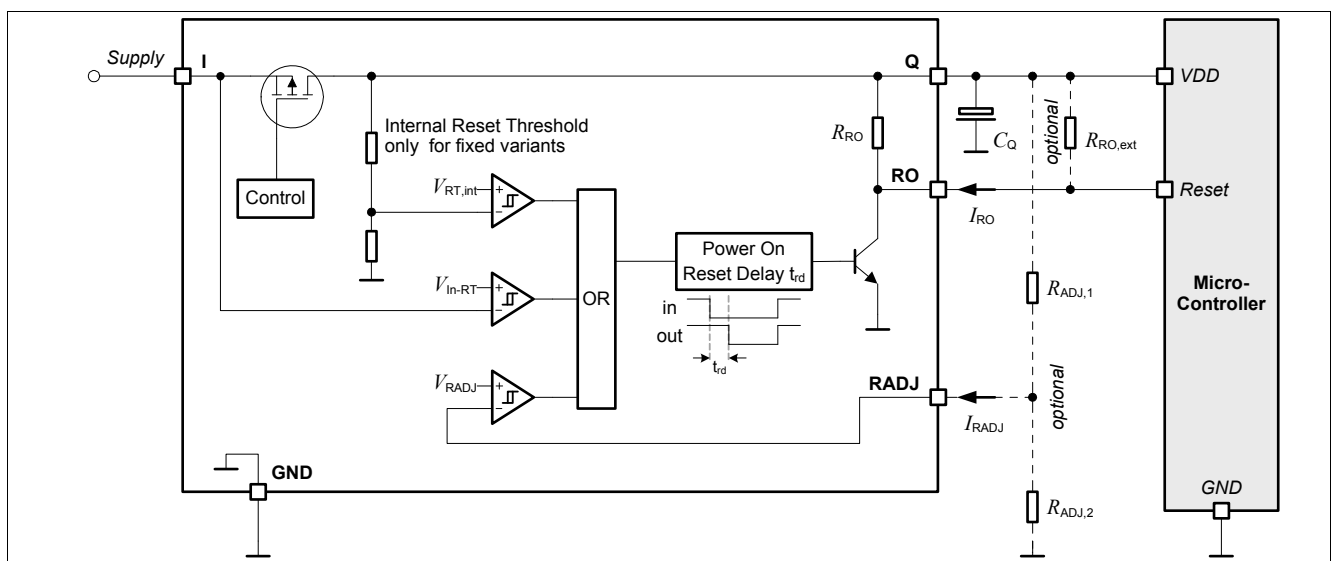

Figure 8 Block Diagram Reset Circuit
- $R_{ADJ,1}$, $R_{ADJ,2}$: Resistors of the external voltage divider, see Figure 8.